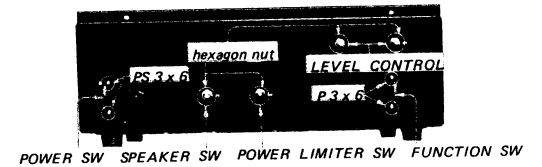

Fig. 2-3. Switch and control replacement
2. Remove the screws or nuts securing each component to the front subchassis as shown in Fig. 2-3.